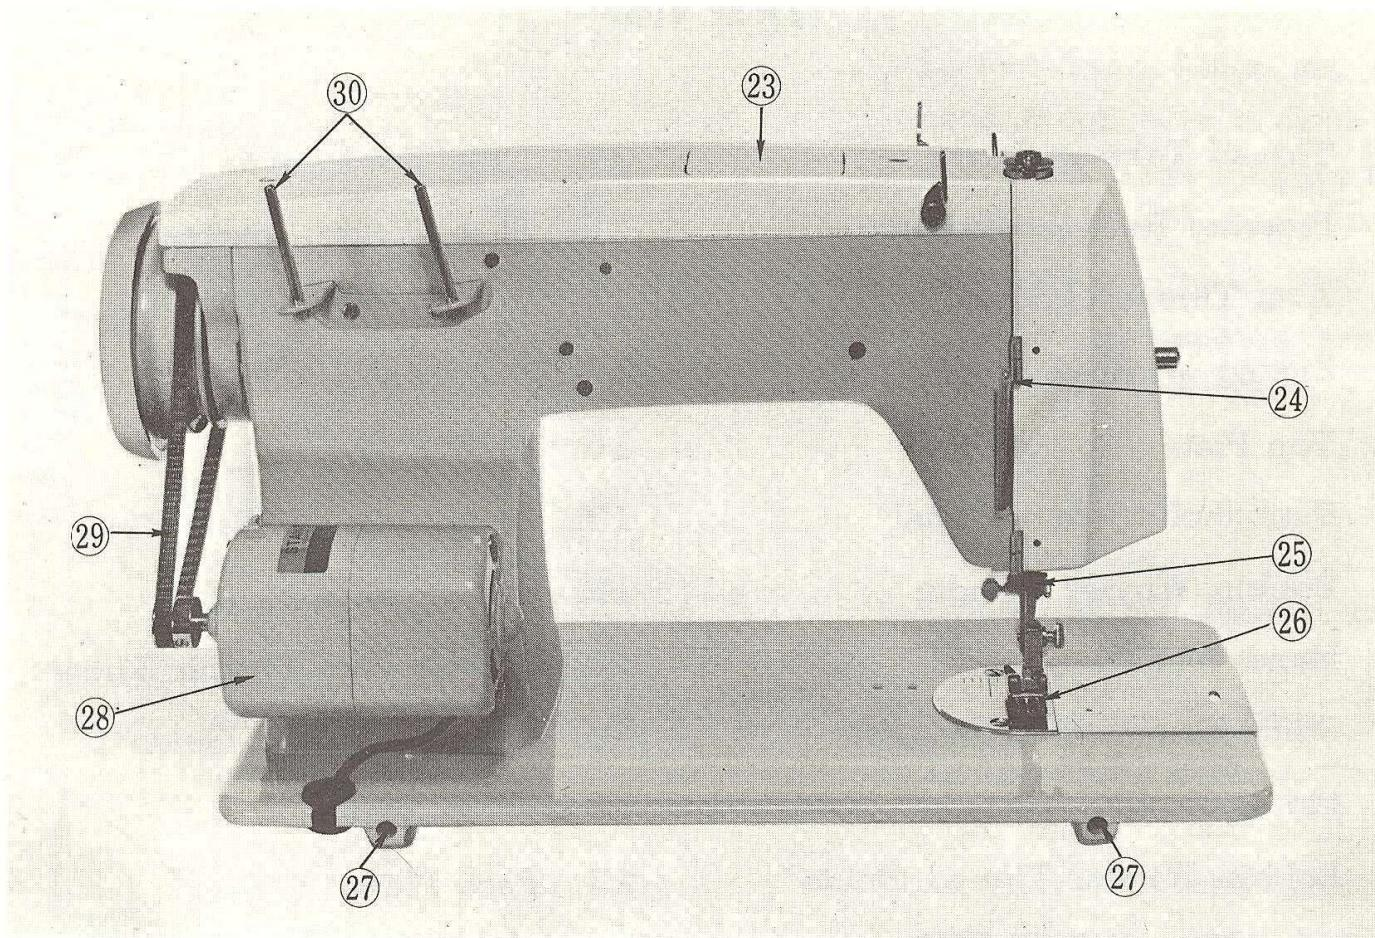

Fig. 2
Raise the presser bar lifter (④, Fig. 2).